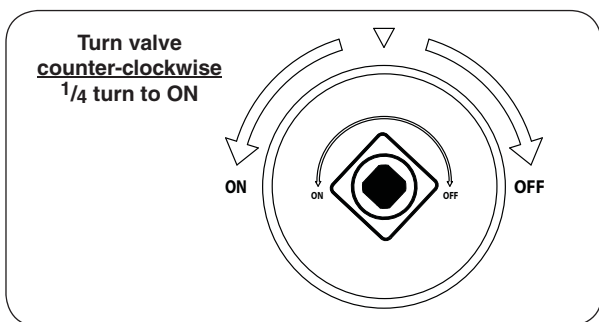

Fig. 43-2 ON/OFF key valve detail
2. Turn the ON/OFF key valve counter-clockwise a 1/4 turn to the **ON** position (Fig. 43-2).